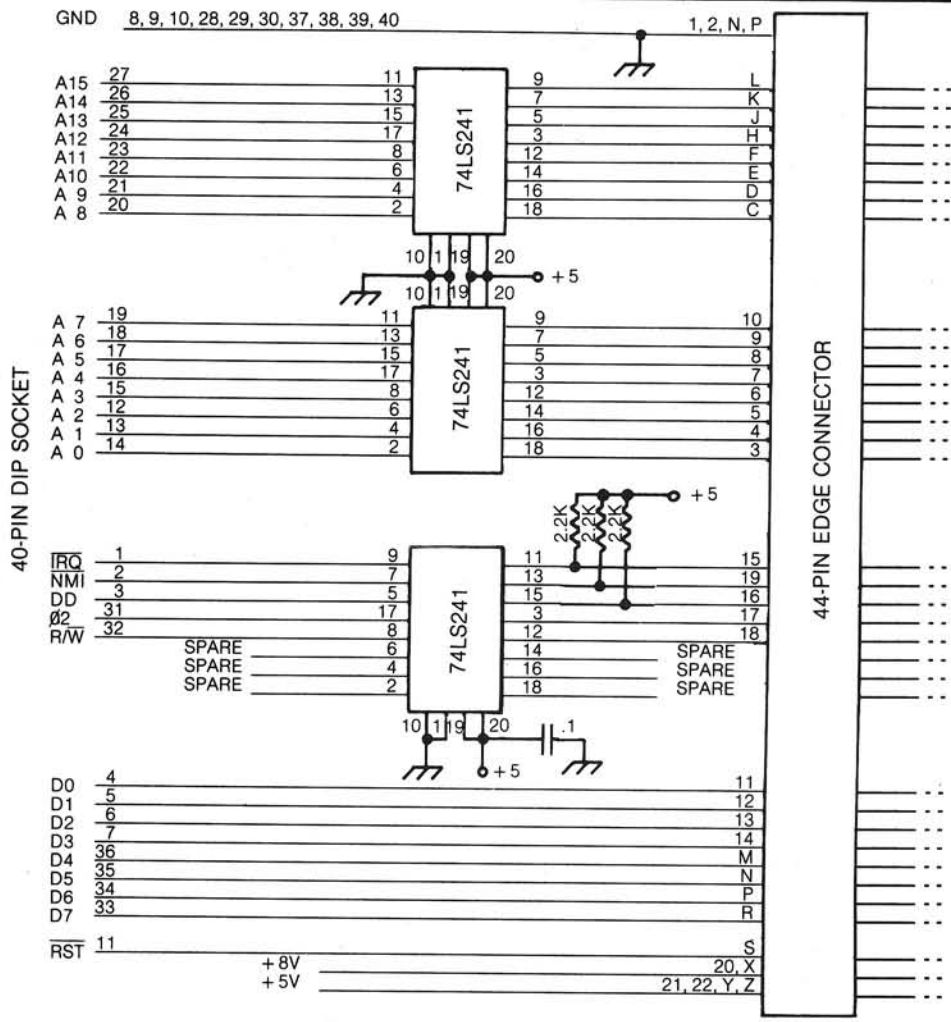

Figure 1: The motherboard circuit showing full buffering of all lines but data and reset. Additional edge connectors are wired in parallel with the one shown.
The 6502 does not have the drive capability to handle a motherboard so buffers must be added. Figure 1 shows the buffer circuit which goes between the computer and the edge connectors. All signals except for the interrupts, DATA and RESET lines, go through 74LS241 octal bus line drivers. The interrupt lines are buffered by a 74LS17 open-collector buffer driver. The 8T28 data buffers require a data direction (DD) signal which is low for reading data and high for writing data. Any peripheral circuits must have logic for controlling this line. Note that the interrupt and DD lines have pull-up resistors because several plug-in boards may require access to them. By using open-collector TTL ICs on the plug-in boards and the pull-ups, this line contention is easily solved.